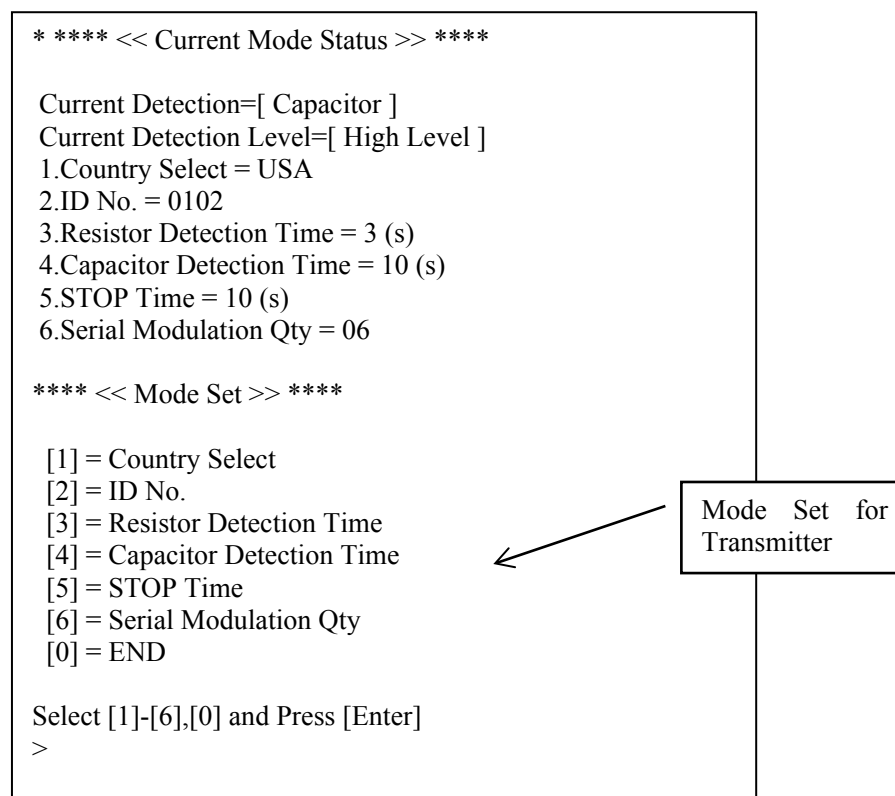

Fig.4-5 □ Mode Set for Transmitter
□At this point when pushing **C** key within 5sec, the following screen (Fig.4-5) is displayed and Mode Set can be changed. Pushing **Enter** key terminates the setting.
□Country Set (Select [□] in Fig. 4-5)
□Transmitter ID Set (Select [□] in Fig.4-5)
□Setting of Resistor Detection Time. (Select [□] in Fig.4-5)
□Setting of Capacitor Detection Time. (Select [□] in Fig.4-5)
□Setting of Transmission Stop Time. (Select [□] in Fig.4-5)
□Setting of Modulation number of times. (Select [□] in Fig.4-5)
□Select [□] in Fig. 4-5, and then CLONING MODE will be terminated.
□ At this point when pushing **C** key within 5sec, the following screen (Fig.4-5) is displayed and Mode Set can be changed. Pushing **Enter** key terminates the setting.